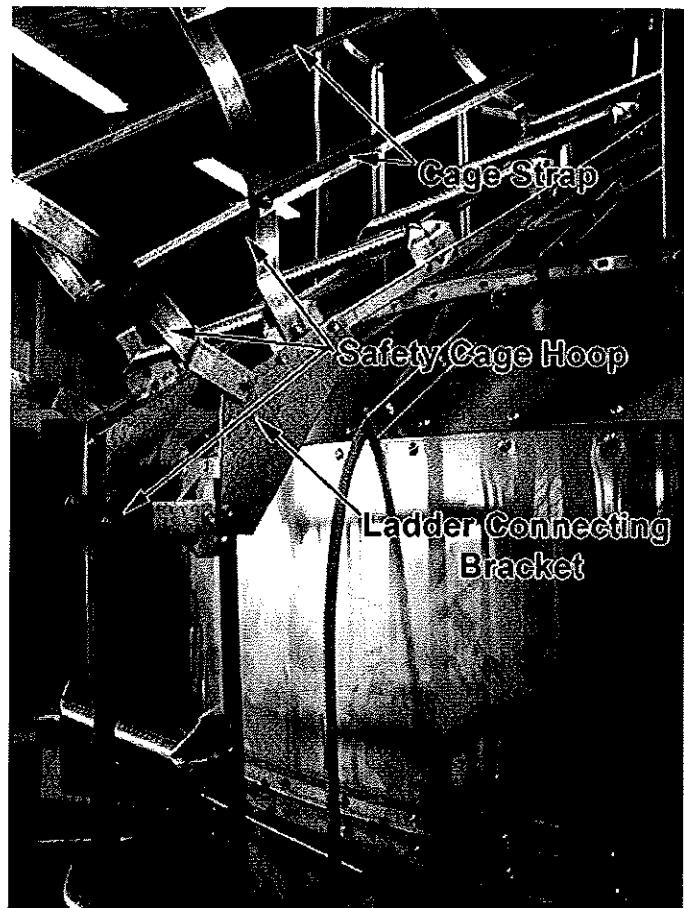

Figure 22
- The safety cage hoop at the bottom of the 5' ladder and the safety cage hoop at the top of the 6' ladder will bolt onto the ladder connection brackets. **See Figure 22.**